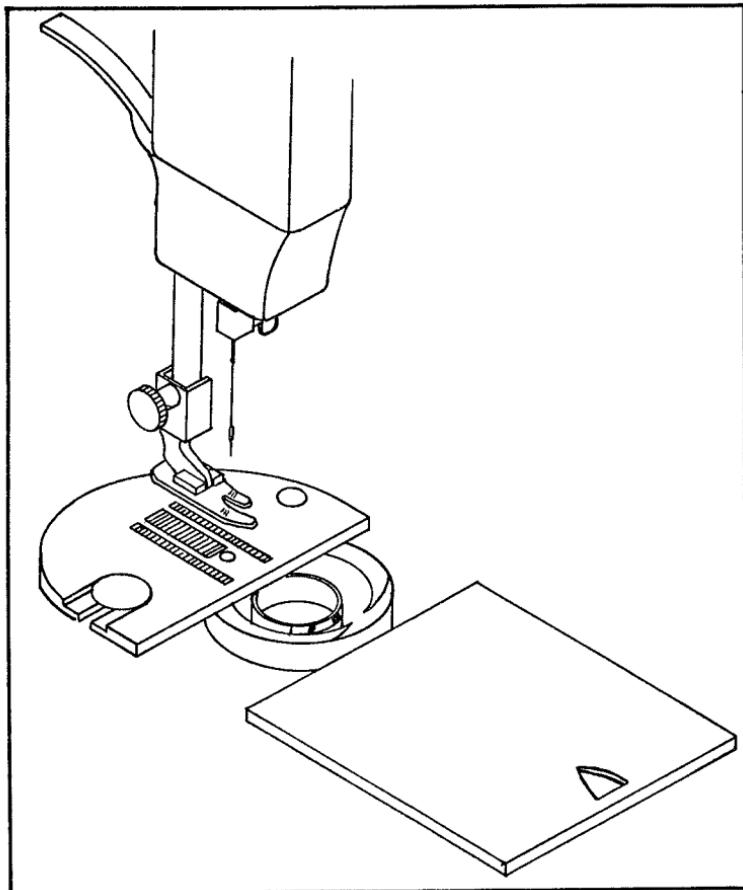

Fig. 1-6. If a portion of the divided throat plate slides outward, the shuttle will be located as shown.
- If the throat plate is the divided type that can slide toward you or to the left (Figs. 1-6 and 1-7), slide it and the shuttle